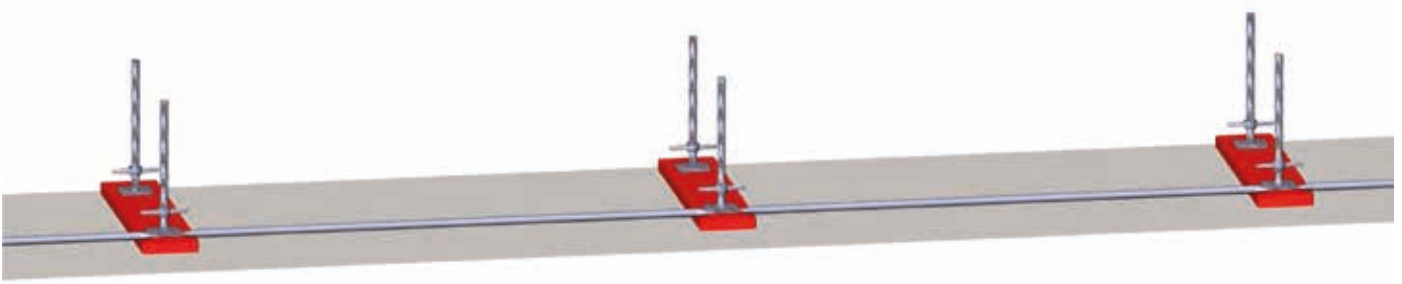

Fig. 2. Placing scaffolding on sole boards on the levelled ground with guardrails marking the spacing between sole boards.
- The installation of the scaffolding begins with laying the sole boards on the ground and placing the guardrails on them to mark the distance between the sole boards and then the steel screw jacks (Fig. 2). Lay the sole boards transversely to the facade of the building in such a way that there are two screw jacks of one frame on one sole board. The spacing of the screw jacks on the sole boards is determined by the width of the frame. The screw jacks on the side of the wall should be arranged in such a way that, after installing the frames and decks, the horizontal distance between the edge of the scaffolding deck and the wall does not exceed 20 cm.
- The assembly of the scaffolding begins with laying the sole boards on the ground, and then the steel screw jacks (Fig. 2). Lay the slope boards transversely in such a way that the two feet of one frame were on one sole board. The spacing of sole boards and steel screw jacks is determined by the length of the guardrails and the width of the frame. The steel screw jacks on the wall side should be arranged in such a way that, after installing the frames and decks, the horizontal distance between the edge of the scaffolding deck and the wall does not exceed 20 cm.